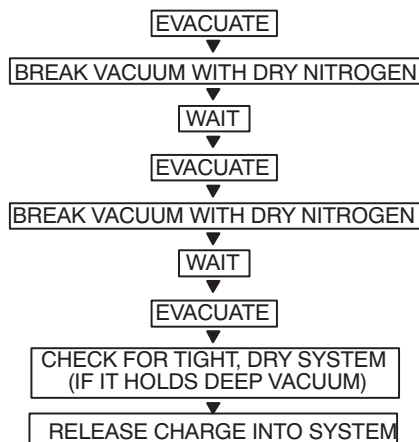

Fig. 35 —Triple Evacuation Method
The triple evacuation method should be used when vacuum pump is not capable of pumping down to 1/4 inch and system does not contain any liquid water. Refer to Fig. 35 and proceed as follows:
5. Repeat this procedure as indicated in Fig. 35. System is now free of any contaminants and water vapor.